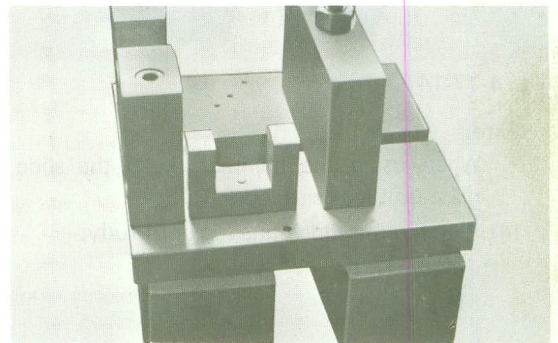

Fig. 4-17-12
- (1) Install Tool No. 6 (used to space the crankshaft ass'y) on Tool No. 1. (Fig. 4-17-12)